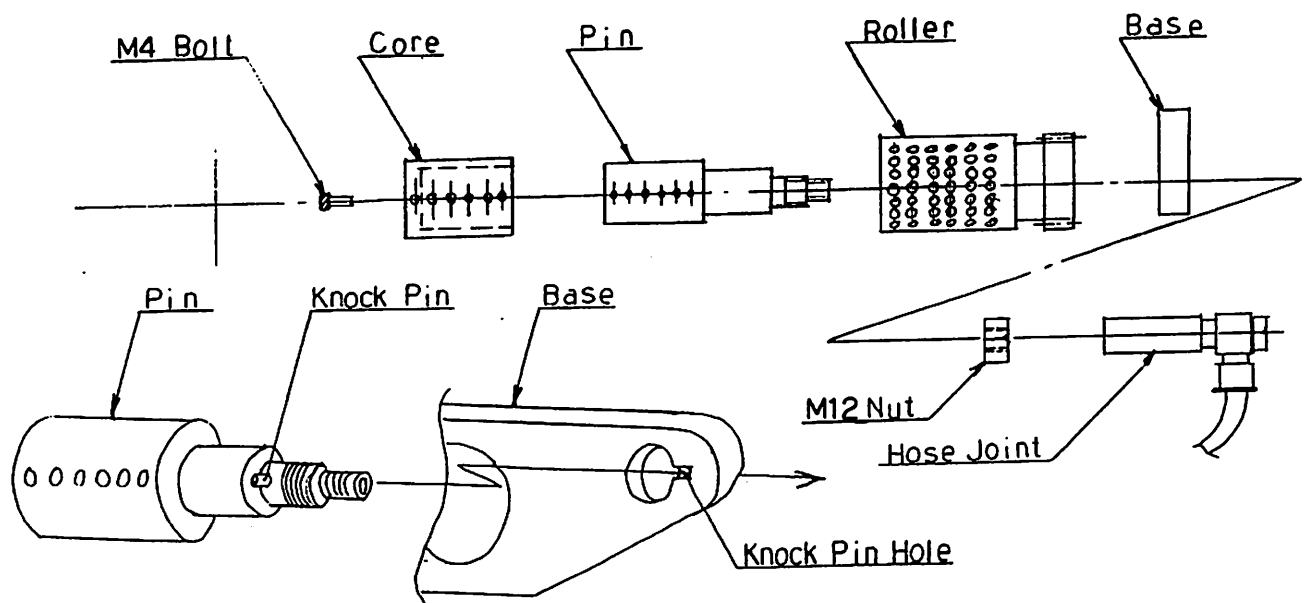

Fig. 4
- (1) Put Core back to Shaft and tighten fixing Bolt (M4).
- (2) Put Roller back to assembly of Core and Shaft.
- (3) Set positioning Knock Pin of Shaft by Knock Pin Hole of Base
- (4) Tighten fixing Nuts (M12) of Vacuum Roller.
- (5) Thrust Hose Joint into Pin. (Fig. 4)